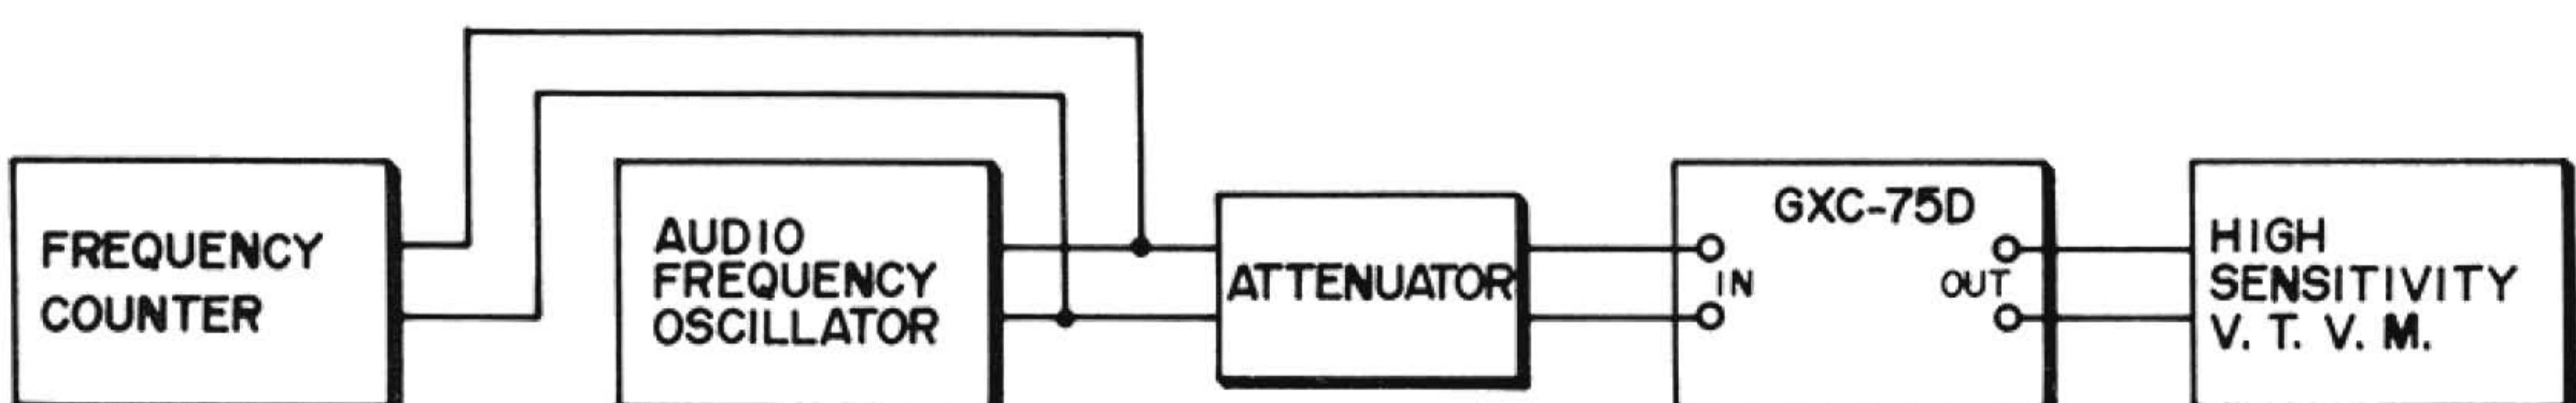

Fig. 21 Various Measuring Instrument Connections
2. PLAYBACK LEVEL ADJUSTMENT (Refer to Figs. 21 and 22)
3. RECORDING LEVEL ADJUSTMENT (Refer to Figs. 21 and 22)
(1) 19 kHz FILTER ADJUSTMENT (Refer to Figs. 21 and 25)
- a) Connect the various measuring instruments as shown in Fig. 21.
(2) RECORDING CIRCUIT ADJUSTMENT (Refer to Figs. 21 and 25)